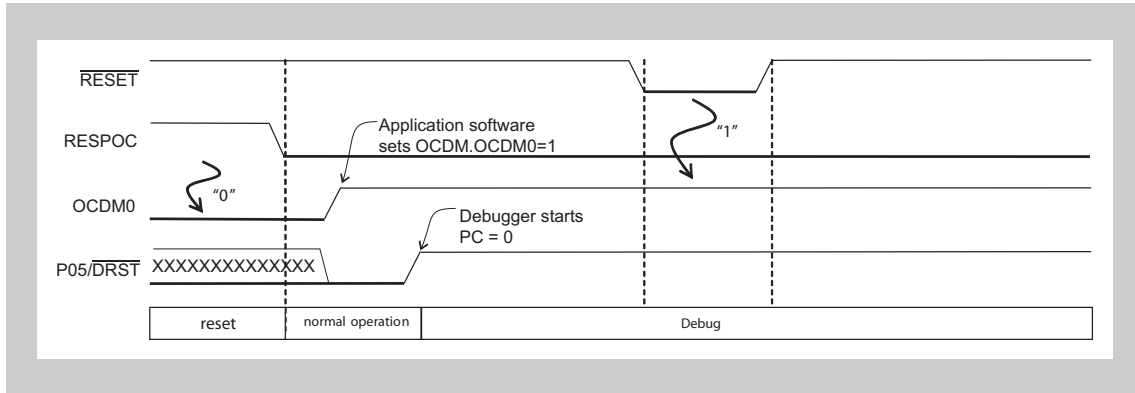

Figure 28-2 Start with N-Wire activation
**Note** After RESPOC the controller is operating without debugger control. Thus all CPU instructions until the software performs  $\text{OCDM.OCDM0} = 1$  can not be debugged. To restart the user's program from beginning under the debugger's control apply an external  $\overline{\text{RESET}}$  after the debugger has started, as shown in *Figure 28-2*. This will cause the program to restart. However the status of the controller might not be the same as immediately after RESPOC, since the internal RAM may have already been initialized, when the external  $\overline{\text{RESET}}$  is applied.